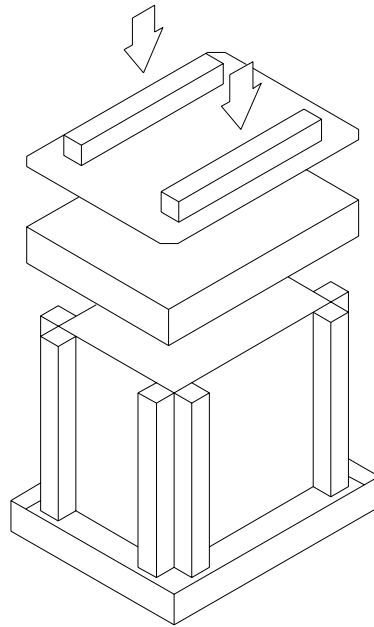

Figure 6-8 Placing the accessory box and top on the library
5. If you are shipping the library's accessories, place the accessory box on top of the library, as shown in Figure 6-8.
6. Place the cushioned top over the accessory box, as shown in Figure 6-8.